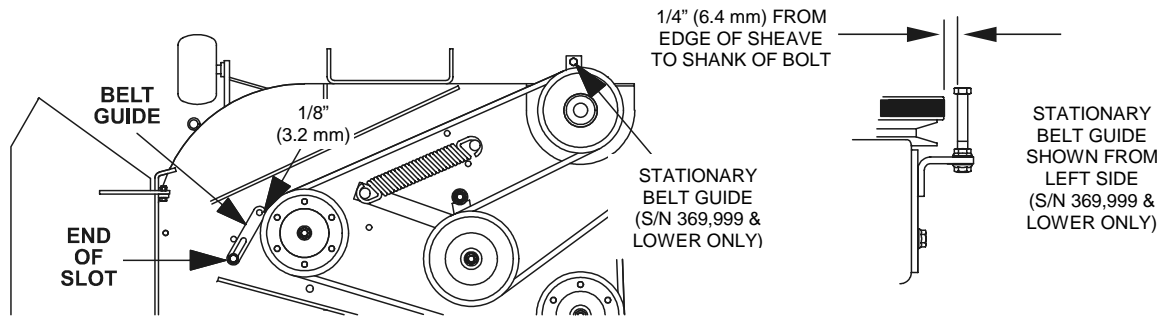

FIGURE 11
- c) Note belt guide bolted to deck near the shield support stud and right-hand pulley. Guide should be 1/8" (3.2 mm) away from the belt, with bolt-end of guide near end of slot (See Figure 11).